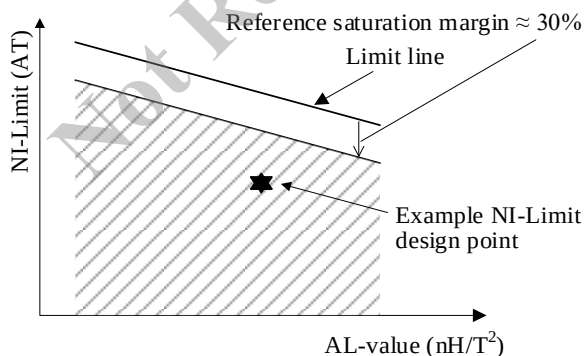

Figure 9-2. Example of NI-Limit vs. AL-value Characteristics
For proper transformer designing, the following should be taken in to account when you choose the AL-value of a ferrite core used in your transformer: the value of NI-Limit(AT) (= $N_p \times I_{\text{DP(DLY)}}$) calculated from the primary winding, N_p , and the peak drain current, $I_{\text{DP(DLY)}}$. To avoid transformer saturation, take variations in temperature and in other parameters into account, and choose a ferrite core with a calculated NI-Limit value that ensures a margin of $\geq 30\%$ to the upper saturation limit defined by the NI-Limit(AT) vs. AL-value graph (i.e., within the hatched area in Figure 9-2):